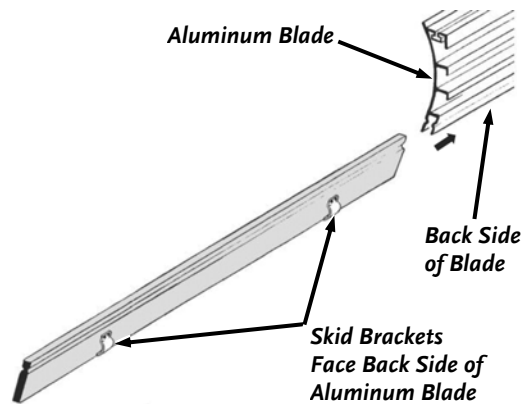

Figure 2
3. Apply soapy water solution to channel areas of the Rubber Blade and Aluminum Blade where they will mate together (**Figure 2**)